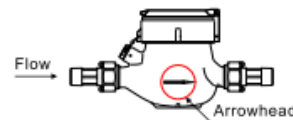

Figure 1
- ◆ The meter must be installed with the direction of the flow as indicated by the arrow cast in the meter body (see figure 1).